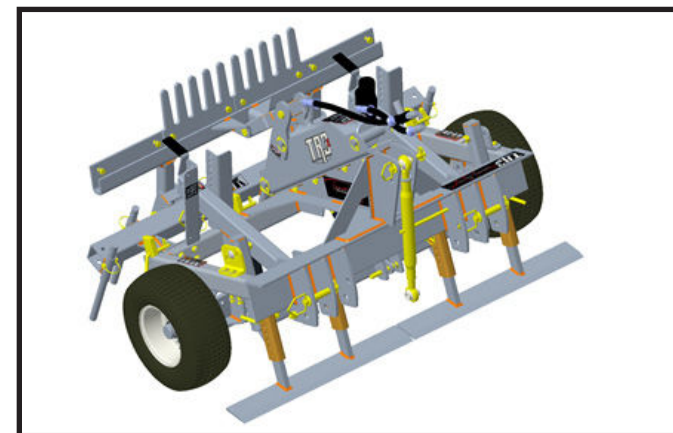
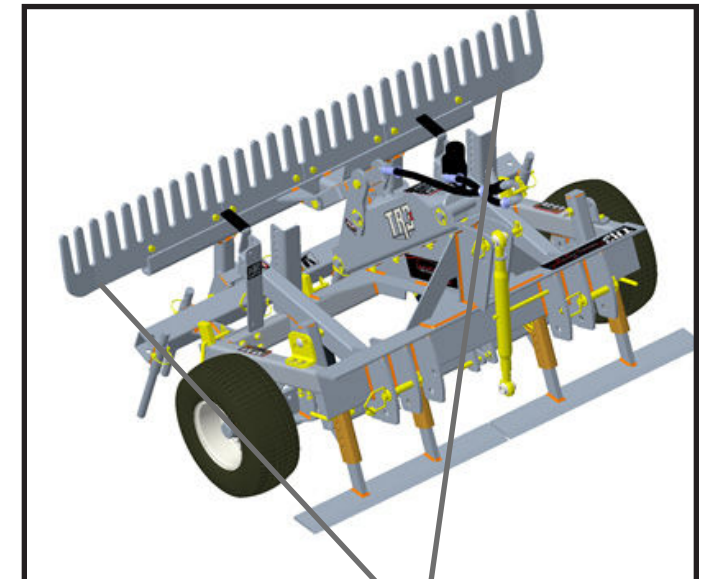

Figure 4.
Figure 5.
1. For Units that are shipped with outer Rake sections removed (as shown in **Figure 4**), remove bolts and nuts (3/4" Hex) from Rake support bracket. Set End Rake sections on Rake support bracket and re-insert bolts and nuts and tighten (see **Figure 5**). Bent ends of Rake Sections are to be angled upwards (see **Figure 6**).